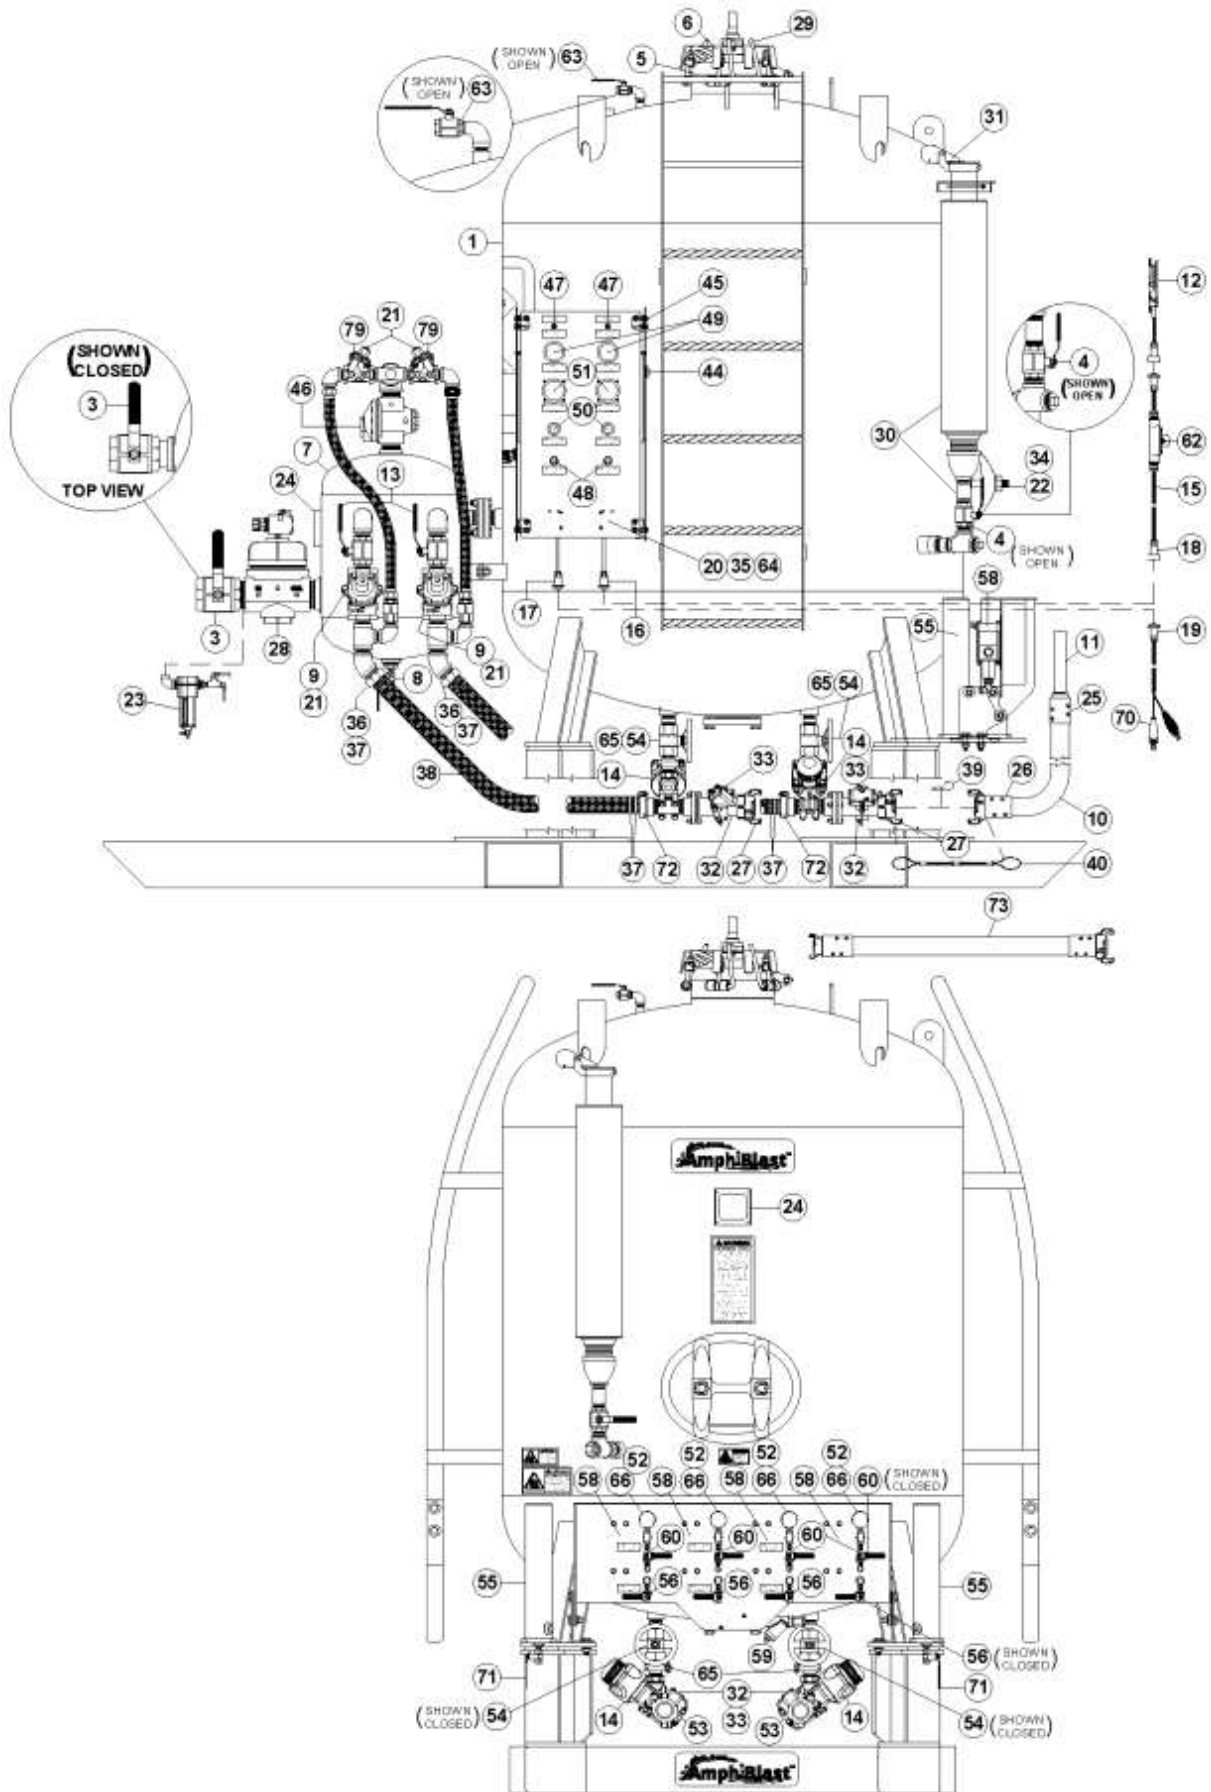

Figure 8.4 – Typical Bulk Amphiblast™ With Electric Controls
- 8.11. **Blowdown Ball Valve:** The blowdown ball valve (#4) is used to depressurize the abrasive blaster pressure vessel (#1). See Figure 8.4. The blowdown air flow can carry abrasive from inside the pressure vessel which can wear the blowdown ball valve (#4) and piping. This wear will cause the blowdown ball valve (#4) to be difficult to open and/or close, and/or result in the inability to close properly (air leaks), and/or wear of the attaching pipe fittings. If and when any of these conditions develop they will be noticeable during daily blowdown operation. When any malfunction is detected the blowdown ball valve (#4) and attaching fittings should be replaced.
Note: Once maintenance is completed as detailed below and the abrasive blaster is re-pressurized confirm there is no air leakage when the blowdown ball valve (#4) is closed. The ball valve is closed when the handle is fully turned to the position shown in Figure 8.4 (handle perpendicular to body). When any malfunction is detected the blowdown ball valve (#4) and attaching fittings should be replaced.
When replacing the blowdown ball valve (#4), also replace the pipe fittings upstream of the valve. These fittings are the 1 ¼" x 3" nipple, 1 ¼" tee and the 1 ¼" plug (see Figure 8.4). Inspect the downstream fittings for wear and replace as necessary. These fittings include the CEN nozzle, bell reducer, nipple, muffler and rain cap.